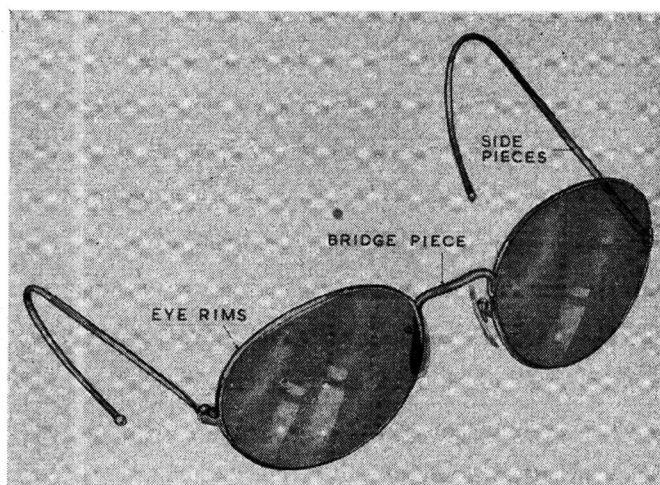

Fig. 1. Spectacles, Mk. 8
4. These spectacles (*fig. 1*) protect the eyes against glare during flying or ground duties. They are fitted with Crooke's B.2 tinted non-safety lenses, and are available in two sizes: medium (Stores Ref. 22C/961) and large (Stores Ref. 22C/962).